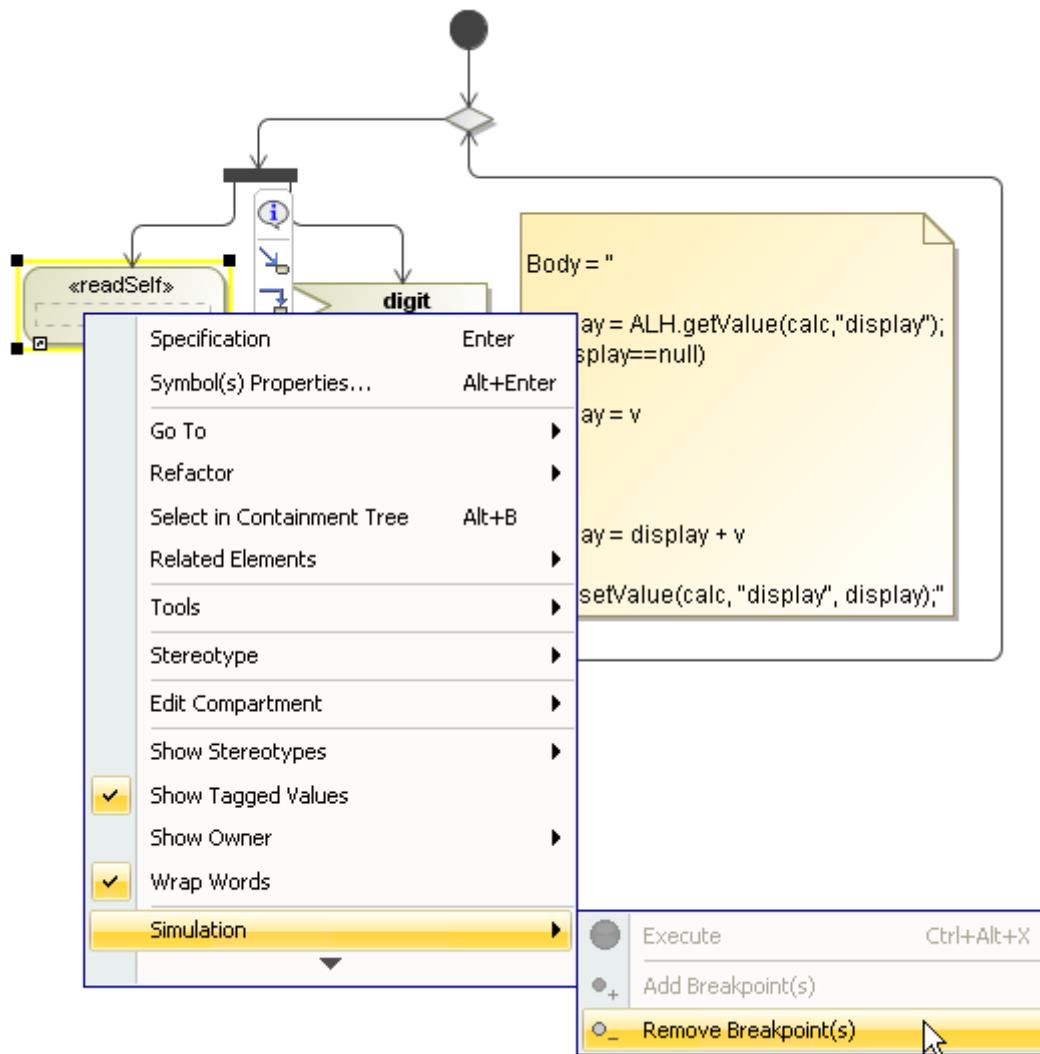

Figure 35 -- Removing a Breakpoint
- Right-click a model element that has a breakpoint(s) and select **Simulation > Remove Breakpoint(s)** (Figure 35).